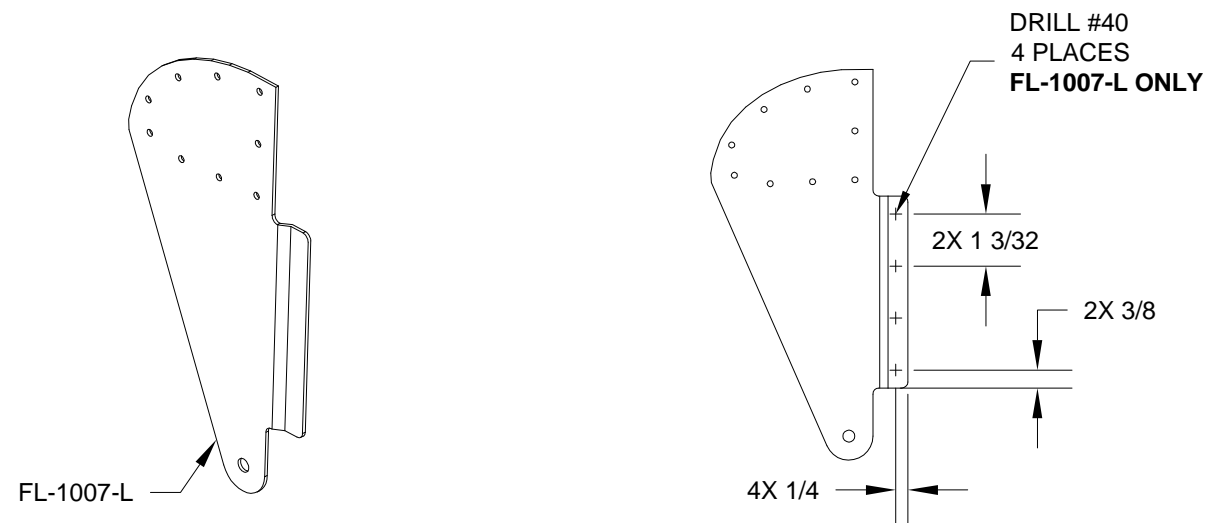

FIGURE 3: DRILL LEFT HINGE BRACKETS ONLY
Step 3: Layout and drill #40 the joggled portion of the three FL-1007-L Hinge Brackets as shown in Figure 3.